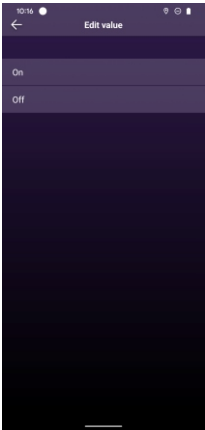

Figure 13
7. The attribute “**Light module on/off state**” is to enable or disable the light sensor. Tap it to enter setting interface, “**Current value**” means current state, “**New value**” is to set a new state value, available setting range is On & Off, On means the light sensor is enabled, Off means the light sensor is disabled. Factory default setting is “On”. Once set a new value, tap “**Update**” button at upper right corner to save the setting (as shown in **Figure 12 & Figure 13**).